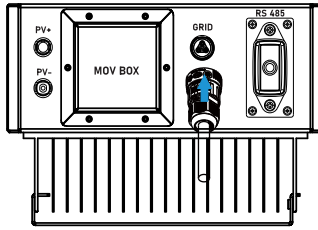

Figure-5.10 AC input connection
- Connect the terminals to the inverter as shown in figure-5.10.